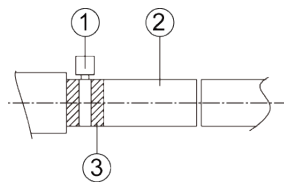
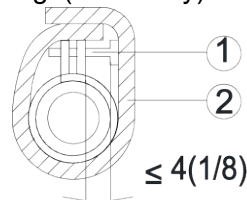

Fig 4.3.2
Fig 4.3.3
- (1) Insert the supplied drain adapter onto the indoor unit drain outlet, as shown in Fig. 4.3.2
- (2) Tighten the metal clamp. Keep the distance between the clamp screw and the end of the adapter less than 1/8 in. / 4 mm, as shown in Fig. 4.3.3.
- (3) Wrap the clamp and drain adapter connection with the supplied insulation to prevent condensation.
- (4) Connect field-supplied rigid PVC drain pipe to the outlet side of the drain adapter. Support and slope the PVC drain piping as required.
① metal clamp(accessory figure 4.3.2 and 4.3.3)
② drain adapter(accessory)